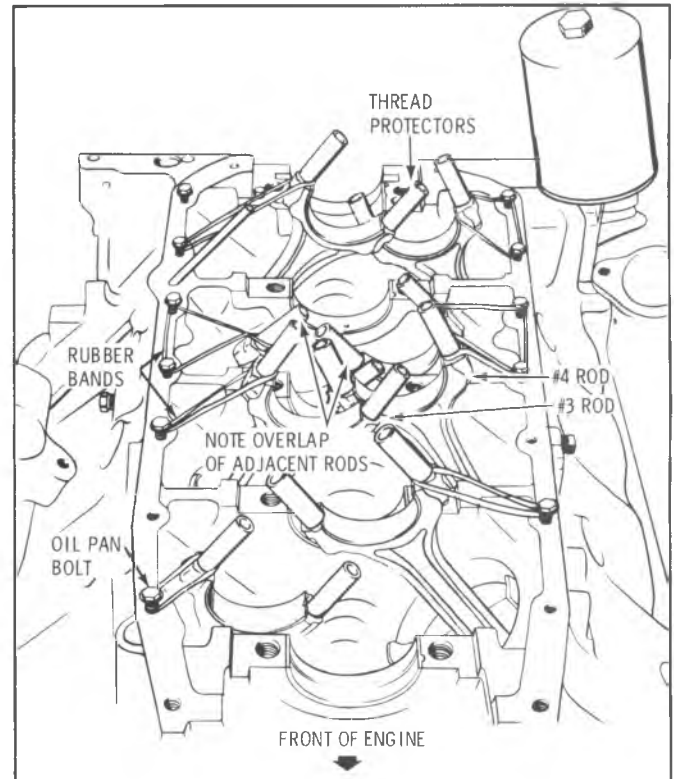

Fig. 6A6-91--Crankshaft Removal
1. With engine on stand and oil pan, oil pump and front cover removed, rotate crankshaft to the position where the connecting rod nuts are most accessible. Fig. 6A6-91 shows the engine with the #3 and #4 rods in the fully extended position.